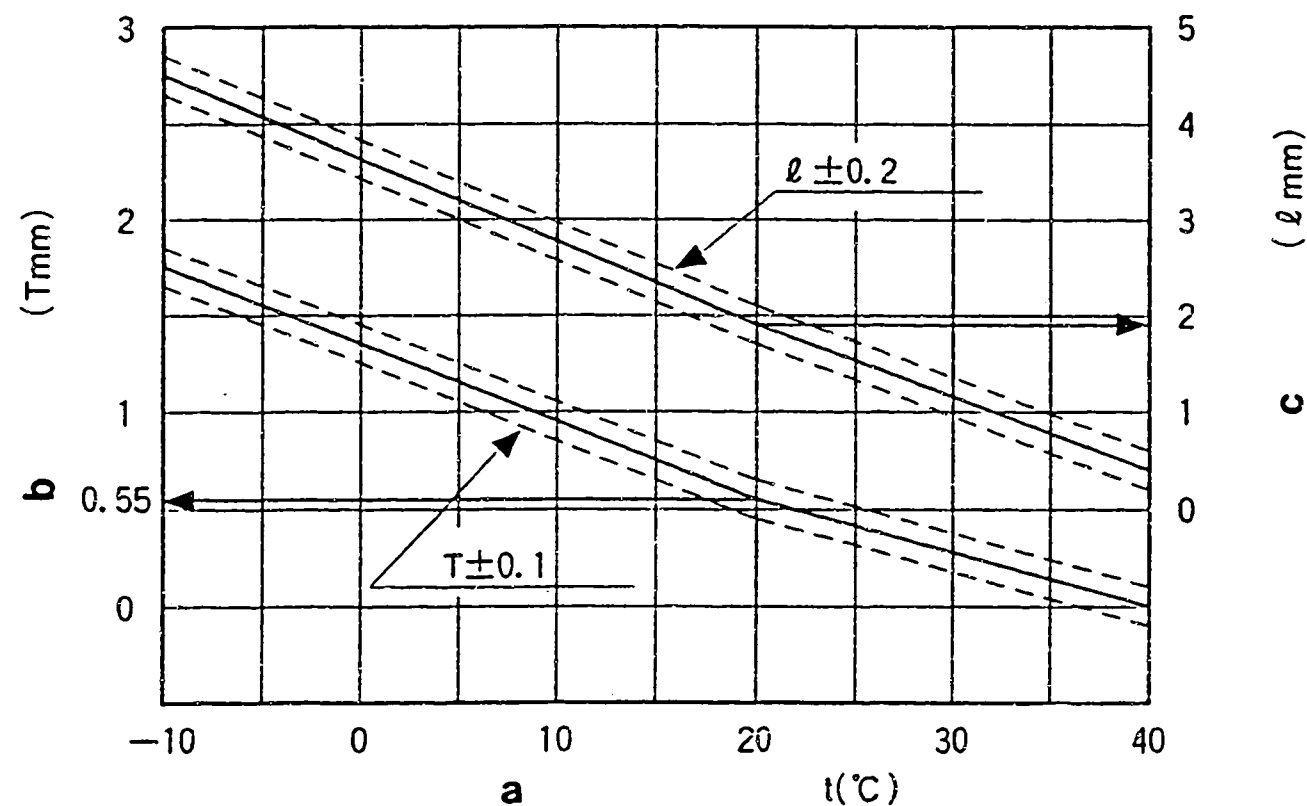

Figure 91
- 1) Calculate the timer stroke from Fig. 91 according to the atmospheric temperature at the time of adjustment.
- 1) Calculate the block gauge dimension $l \pm 0.05$ mm from Fig. 91 according to the atmospheric temperature at the time of adjustment.